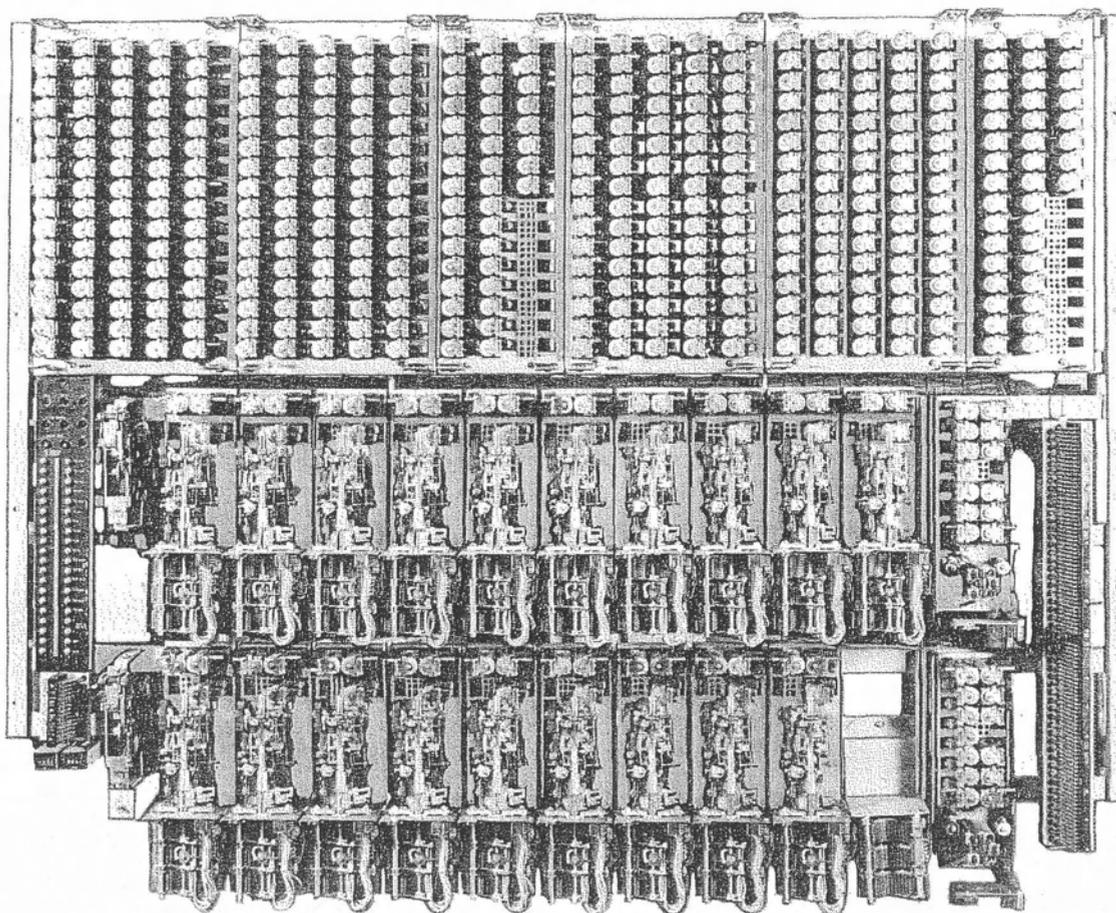

Figure 5. Two-hundred-line linefinder shelf with linefinders mounted below line and cut-off relays. Used with type 11 equipment frames 9' tall.
take care of its traffic. Sometimes the traffic originating in 200 lines requires more linefinders than can be mounted on the linefinder shelf. Then a shelf mounting nothing but linefinders and banks is utilized. These linefinders are connected to the group relays and the distributors of the 200 lines just as are the regular finders. These linefinders operate just as the regular linefinders. The bank multiple of this shelf is reversed in the middle so that the number of finders in group A and group B are kept about equal. This shelf is called an "overflow" shelf since the number of finders needed "overflow" the regular linefinder shelf. (Overflow shelves do not handle just "overflow" traffic. The linefinder shelf treats an overflow finder essentially the same as a regular finder). For shelves of the type shown in figure 4, the overflow finders mount at the left of the regular finders. For shelves of the type shown in figure 5, the overflow finders mount either just below the regular finders or on a non-adjacent frame. See also figure 10.
3.6 Meters. Linefinder shelves may mount up to four counters (figure 5 shows two). A PCA (peg count, group A) meter counts the calls made through group A linefinders; a PCB meter, through group B linefinders. An ATB (all trunks busy) meter counts the times that all linefinders on the shelf are busy. An OF (overflow) meter counts the number of calls that are not completed because all finders on the shelf are busy.